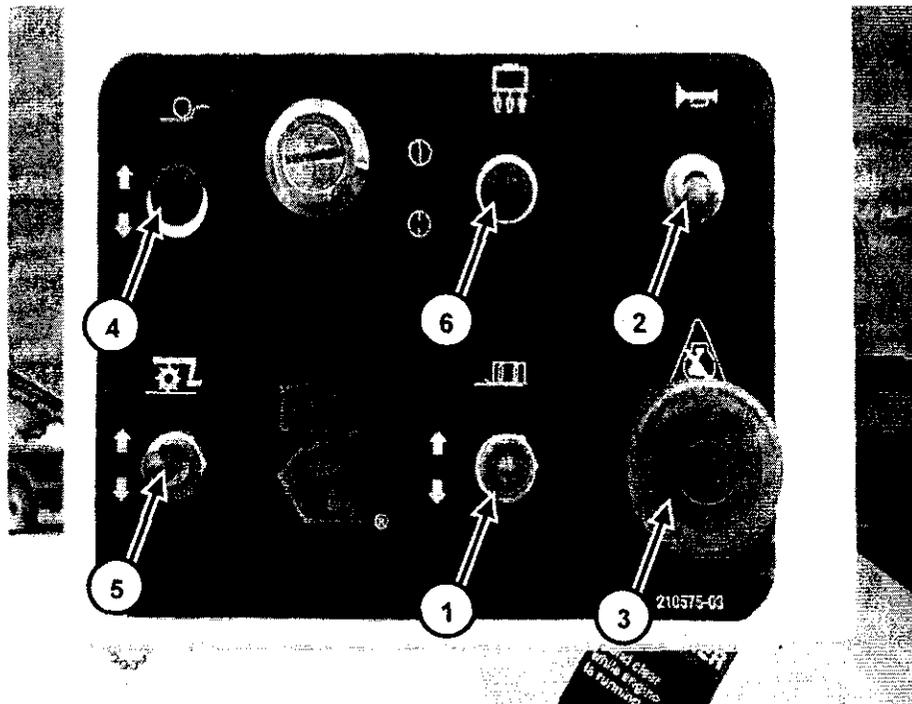

FIGURE 12
D. Set the depth that you intend for the machine to mill and hold grade. Refer to the automatic grade control operation manual for how to do this see figure 12.